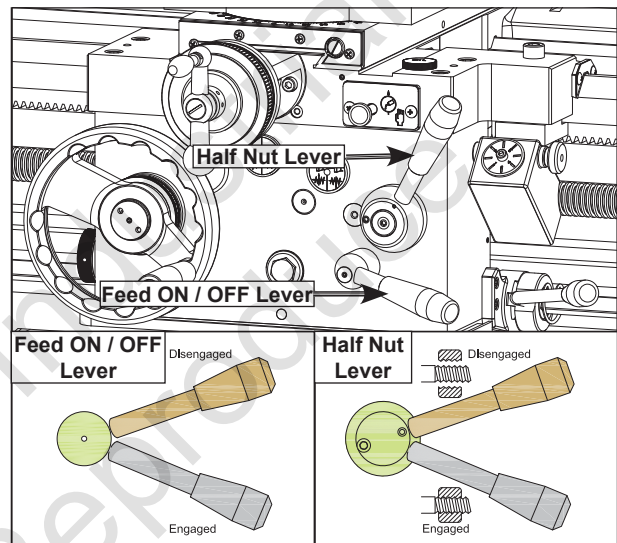

Figure 17. Apron controls for test run.
6. Pull up on the half nut and the feed ON/OFF levers as shown in Figure 17.